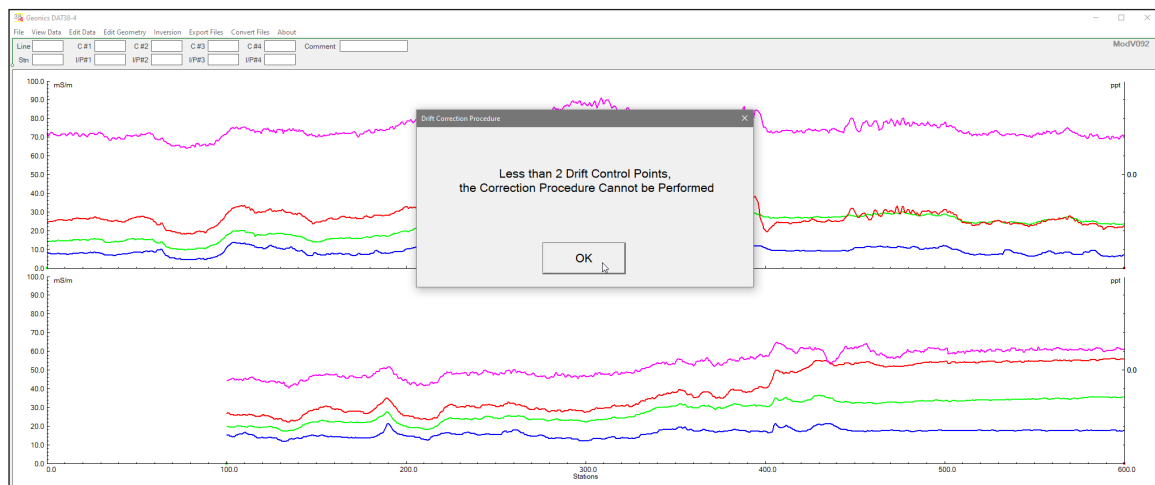

Figure 4.17 Dialog indicating insufficient Drift Control Points to perform Drift Correction
- If the data file contains none or only one Drift Control Point, an information message is displayed (Figure 4.17).